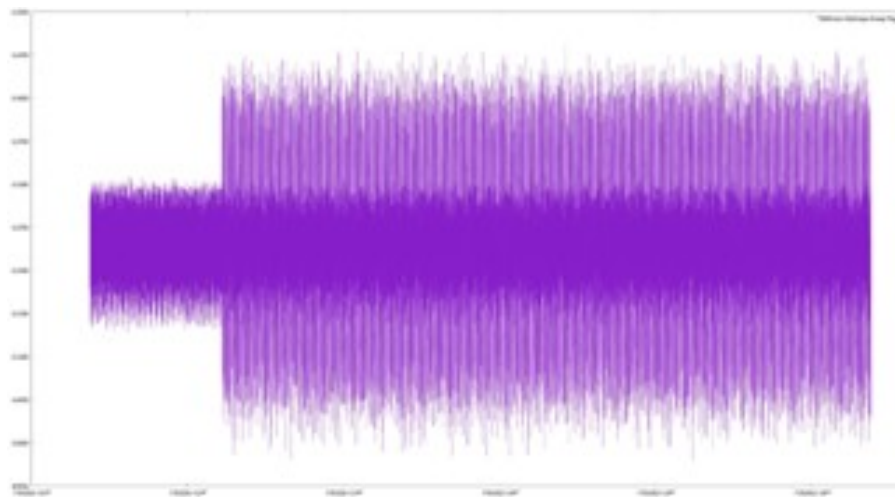

Figure 19: Displaying the measurement series - sample GNU plot
- At the final step, displaying and interpreting the measurement series will take place. The user can use gnuplot to view the sample measurement series collected and see the plot similar to the one given in Figure 19